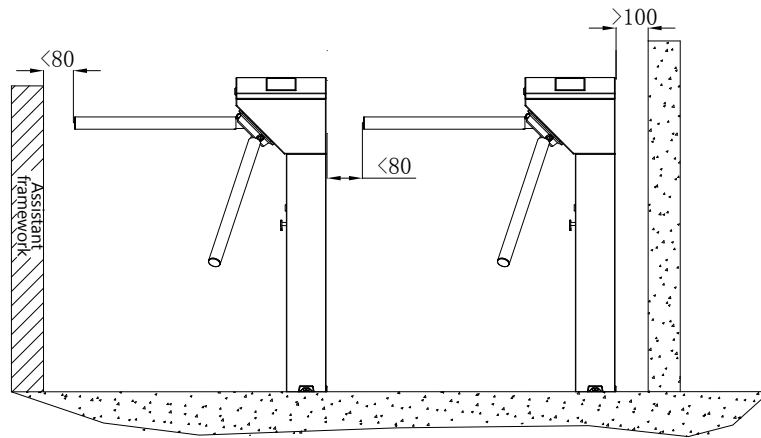

Figure 3-1
You are suggested to install an assistant framework or fence to form a passageway, as shown in figure 3-1.
2. The space at the end of the arm shall not be greater than 80 mm (see figure 3-1).